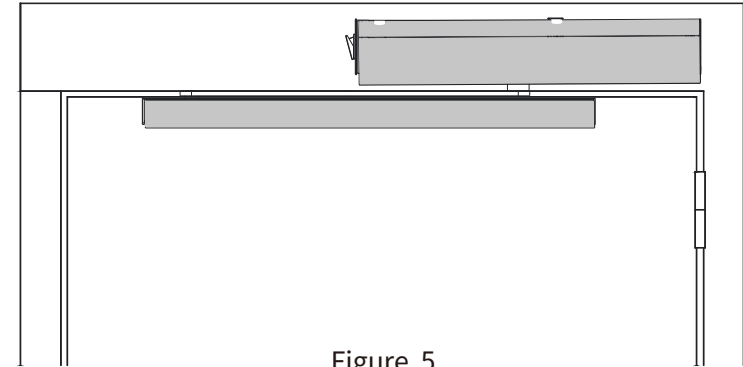

Figure 5
Step 5: connect the power, place the cover, as shown in Figure 5.